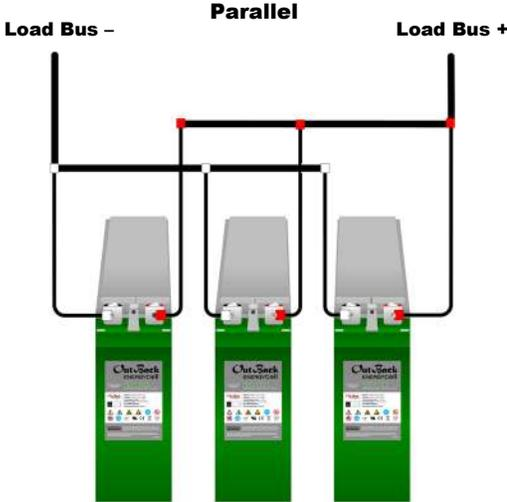

Figure 4 Parallel String Configuration
7. Install parallel connections. Parallel connections are made from the positive terminal of one battery or string to the positive of the next; negative connections are made similarly. (See Figure 4 on page 9.) External cables or bus bars must be provided. Interconnecting bars cannot make parallel connections.